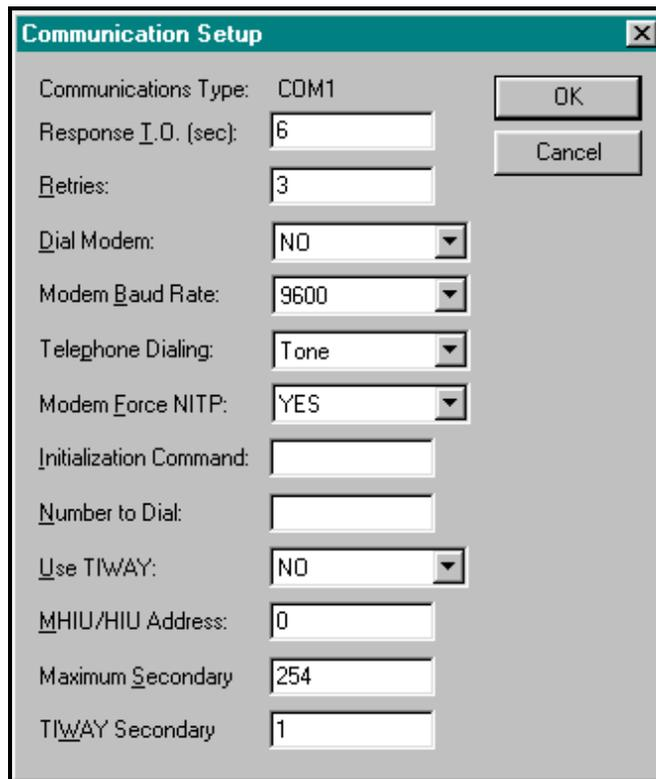

Figure 12
3. Click the Comm. Setup... button to initialize vendor specific device settings as shown for Siemens 505 (Figure 12).